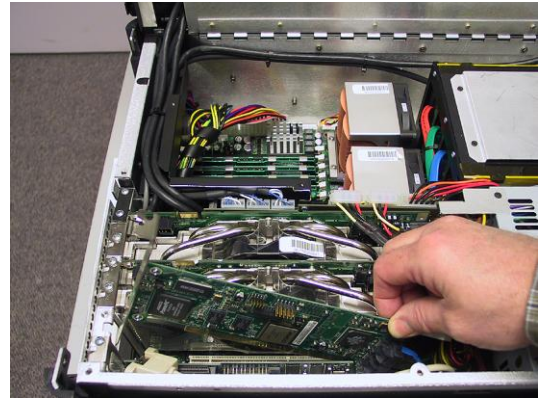

Figure 4-47
- 3) Gently pull out the old card as shown in Figure 4-47.